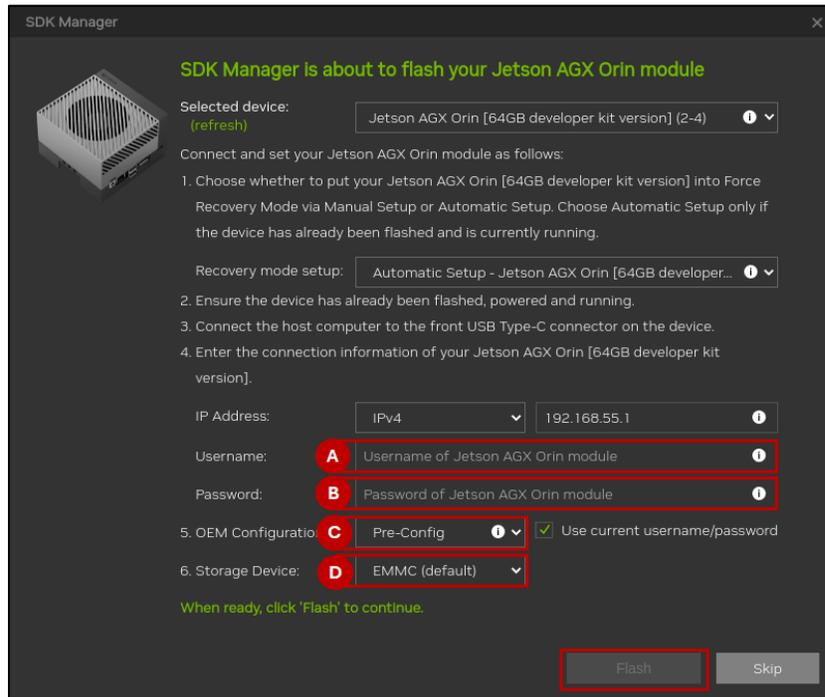

Figure 6.11. SDK Manager
10. When prompted for a flash setup, enter the desired username to access the AGX Orin system, see letter **(A)** in Figure 6.11, along with the password at **(B)**. Select **Pre-Config** from the dropdown at **(C)** and **EMMC** as the storage device at **(D)**. Then, click **Flash** to proceed.